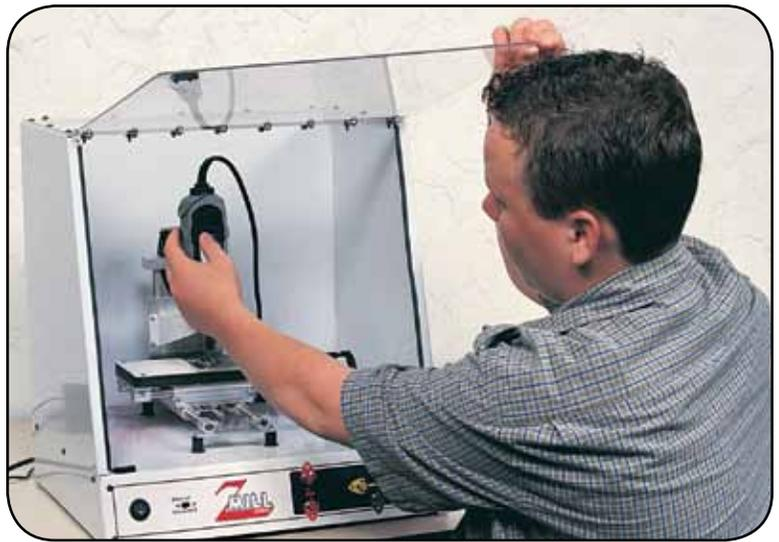

Figure 3
3. After the engraver and holding plate are in place, lift the machine's plastic shield and reach inside to turn on the Z-Mill engraver (Figure 3 on next page).